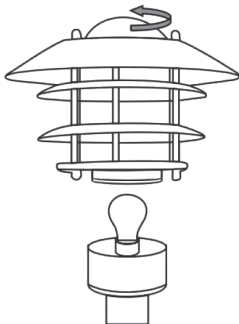

Fig. 2
2. Remove the glass shade by holding it at the top and turning it anticlockwise. Note that the top of the light fitting will come away with the glass shade (see fig. 2).